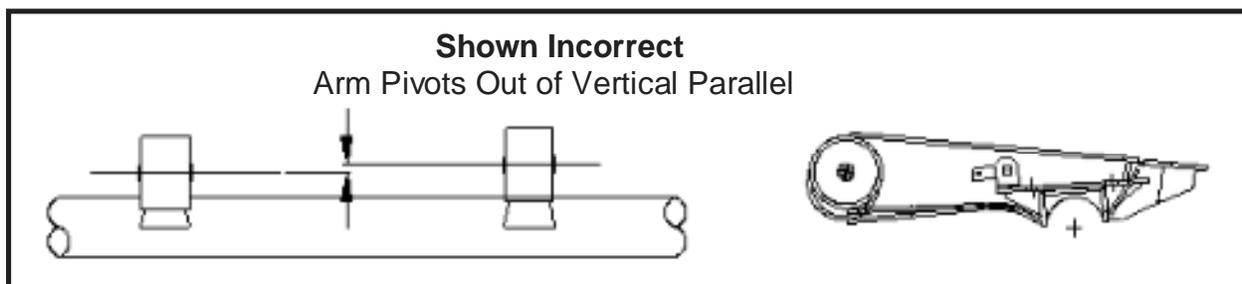

Figure 3
1. The Axle to Arm Pivot Centers are Parallel (See **Figure 3**).
8. Verify that Pivots of arms are concentric to prevent the trailer from leaning. (**Figure 3**)